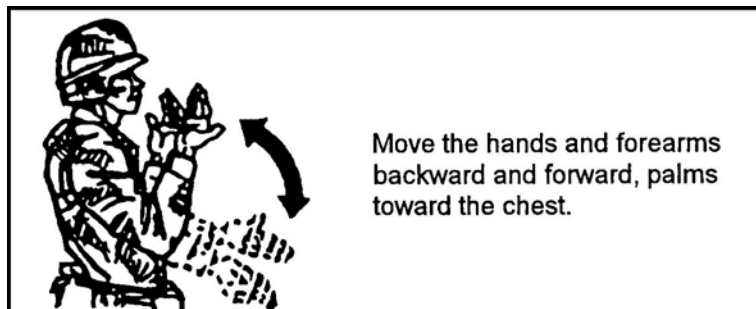

Figure 15. Move forward.
- d. Perform vehicle signals: Move to the left, move to the right, move forward, attention, I am ready, or ready to move, are you ready, mount, disregard previous common, I do not understand, Start engine or prepare to move, halt or stop, increase speed, advance, open up, close up, right or left turn, slow down, move in reverse, close distance between vehicles and stop, stop engines, dismount, neutral steer, stop, button up or unbutton and message acknowledged. (Figures 15 through 36).